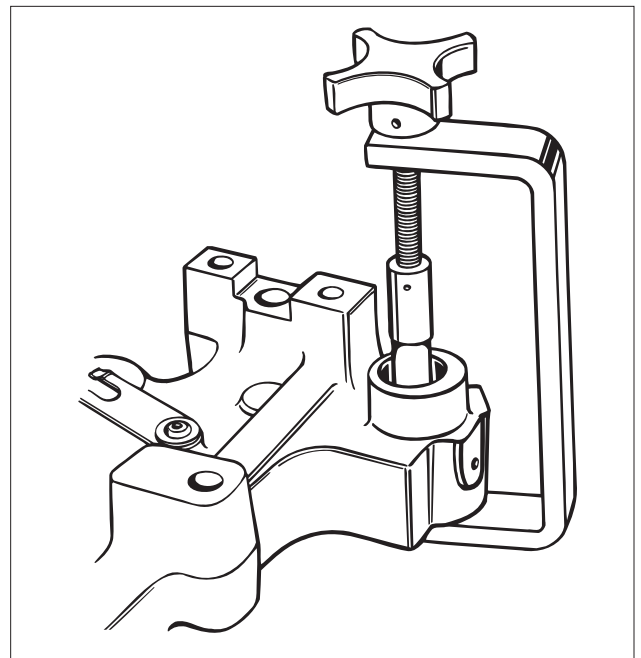

FIG. 28
1. Place the hole in the clamp bracket over the slave piston adjusting screw (Fig. 28).